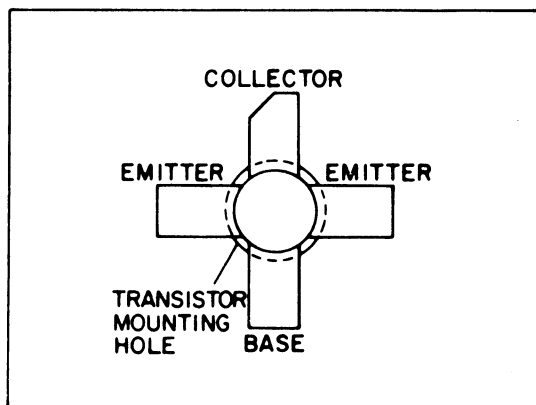

Figure 1 - Lead Identification
4. Trim the new transistor leads (if required) to approximately 3/8-inch lengths (3/16 - inch lengths for Q3, Q4 and Q5 on 25-50 MHz transmitters). Cut the collector lead at a 45° angle for future identification (see Fig. 1). The letter "C" on the top of the transistor indicates the collector.